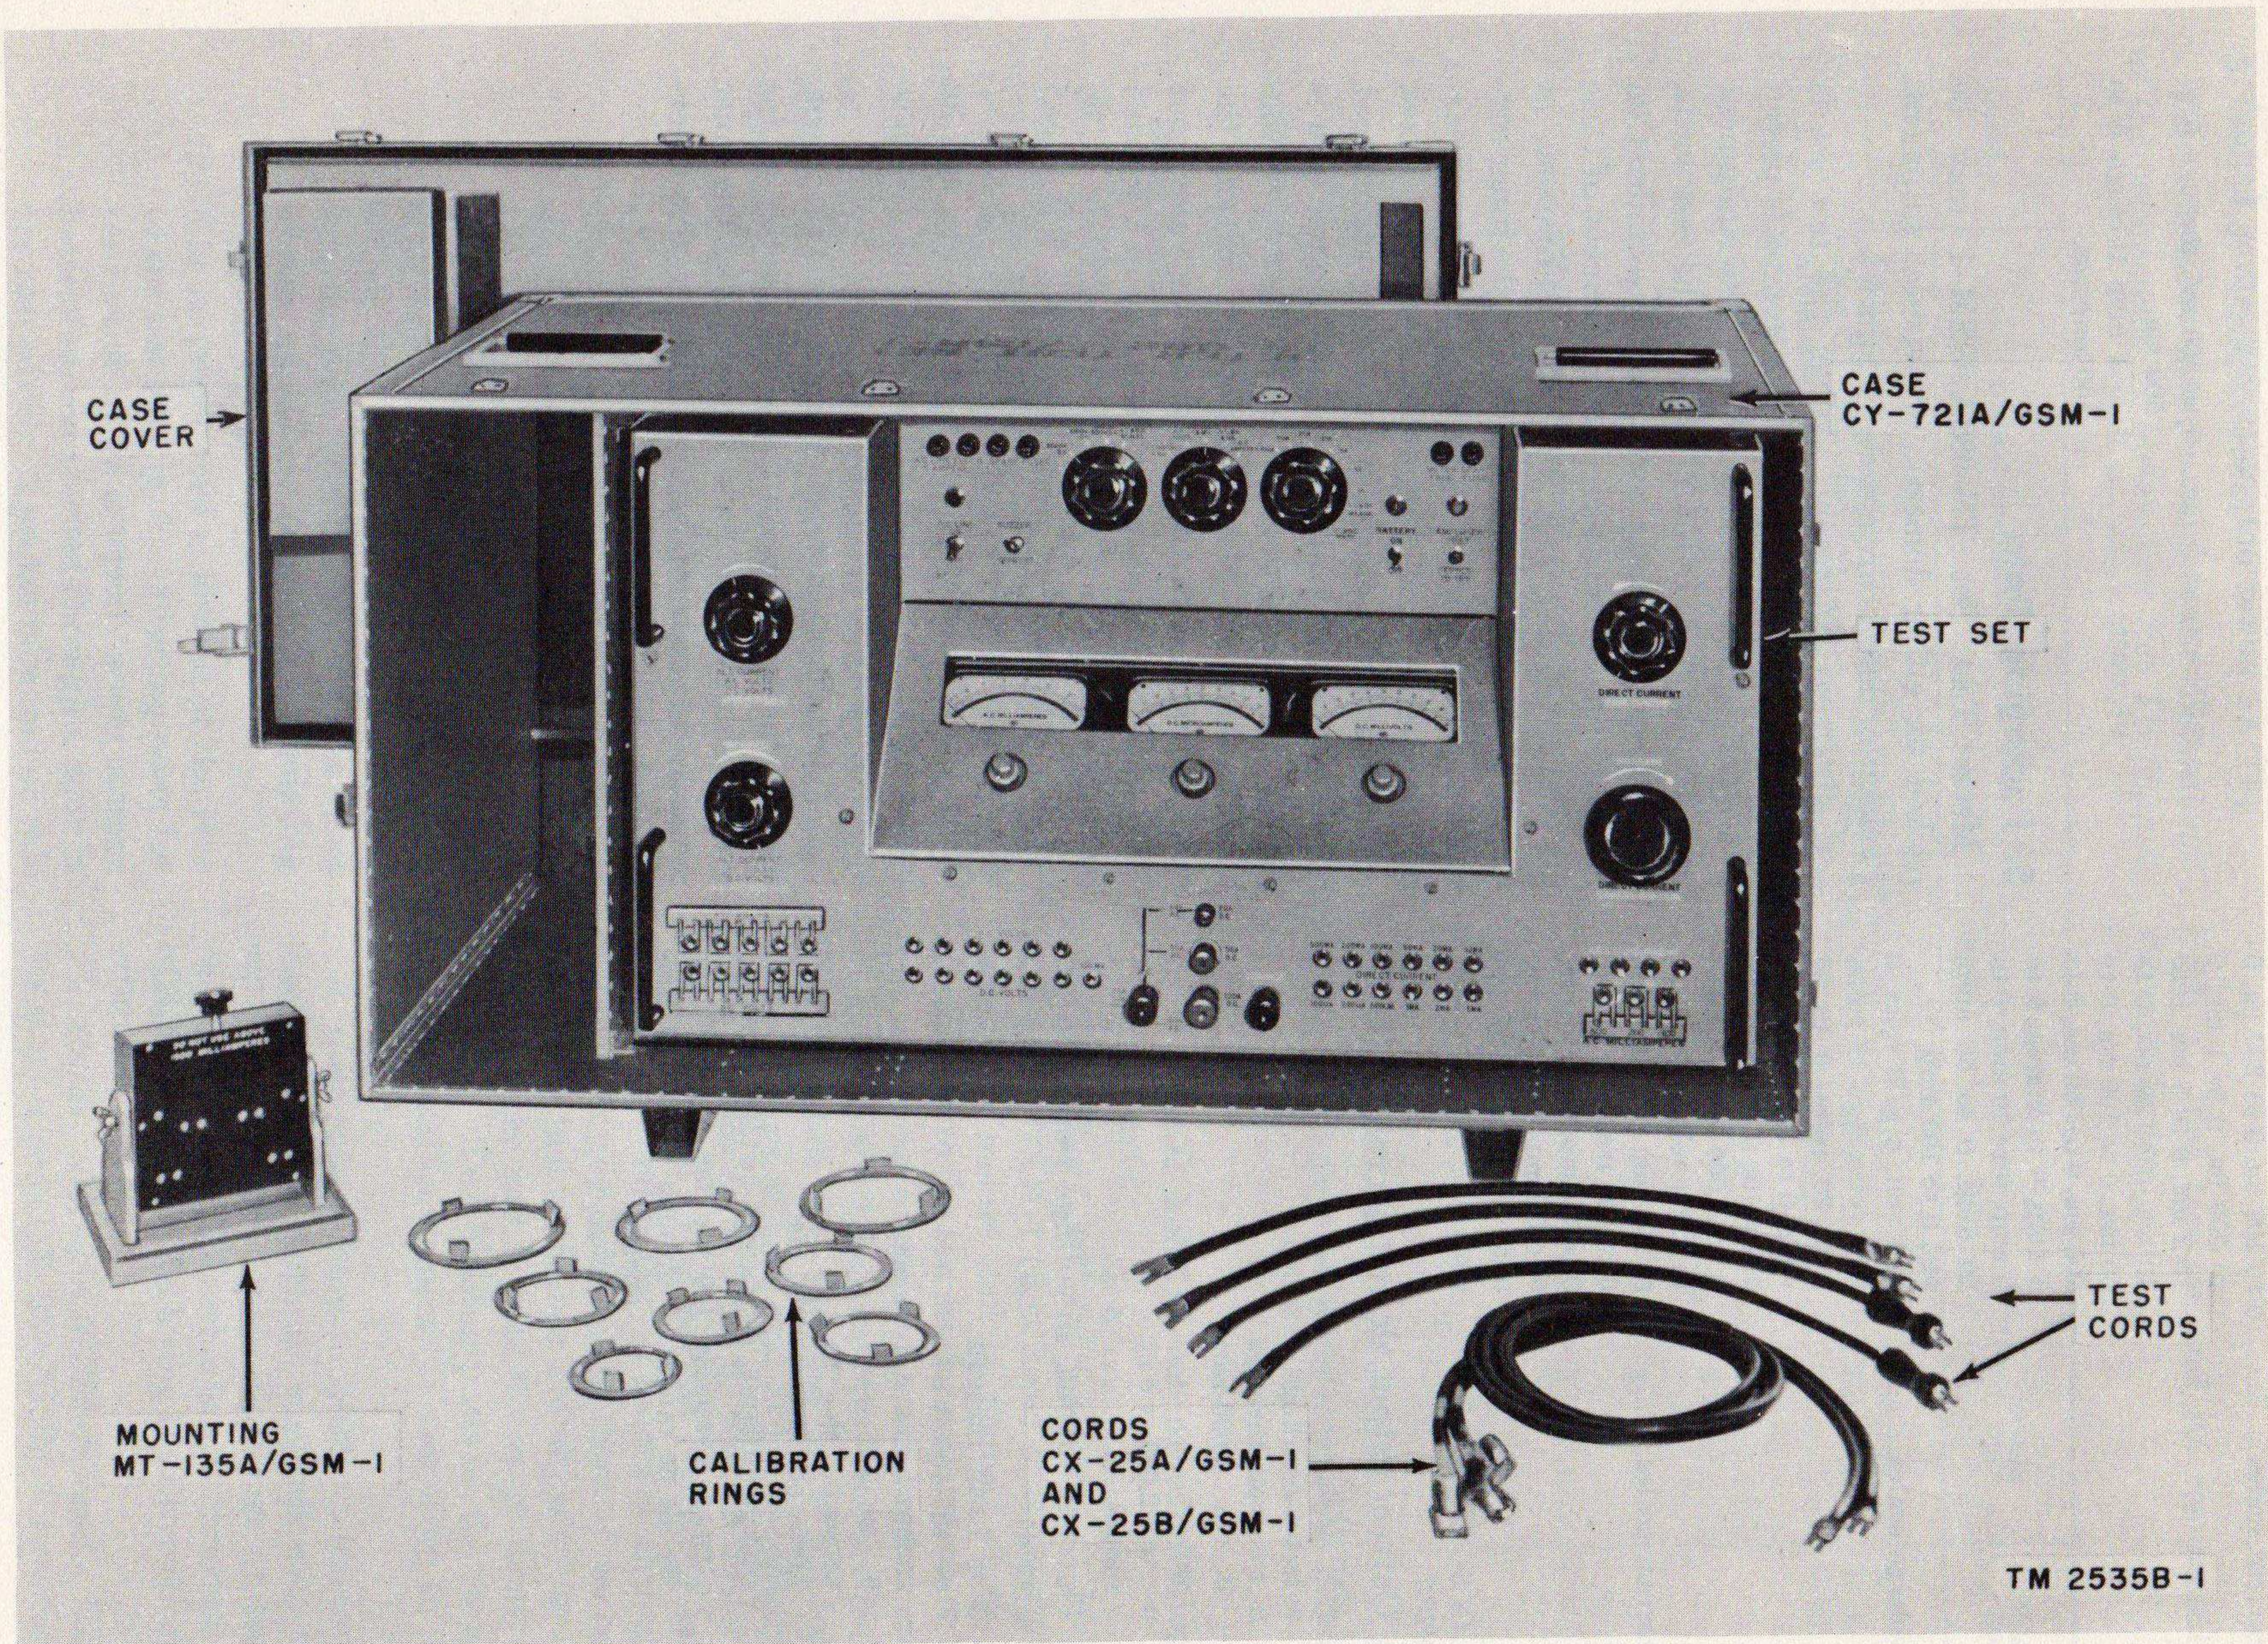
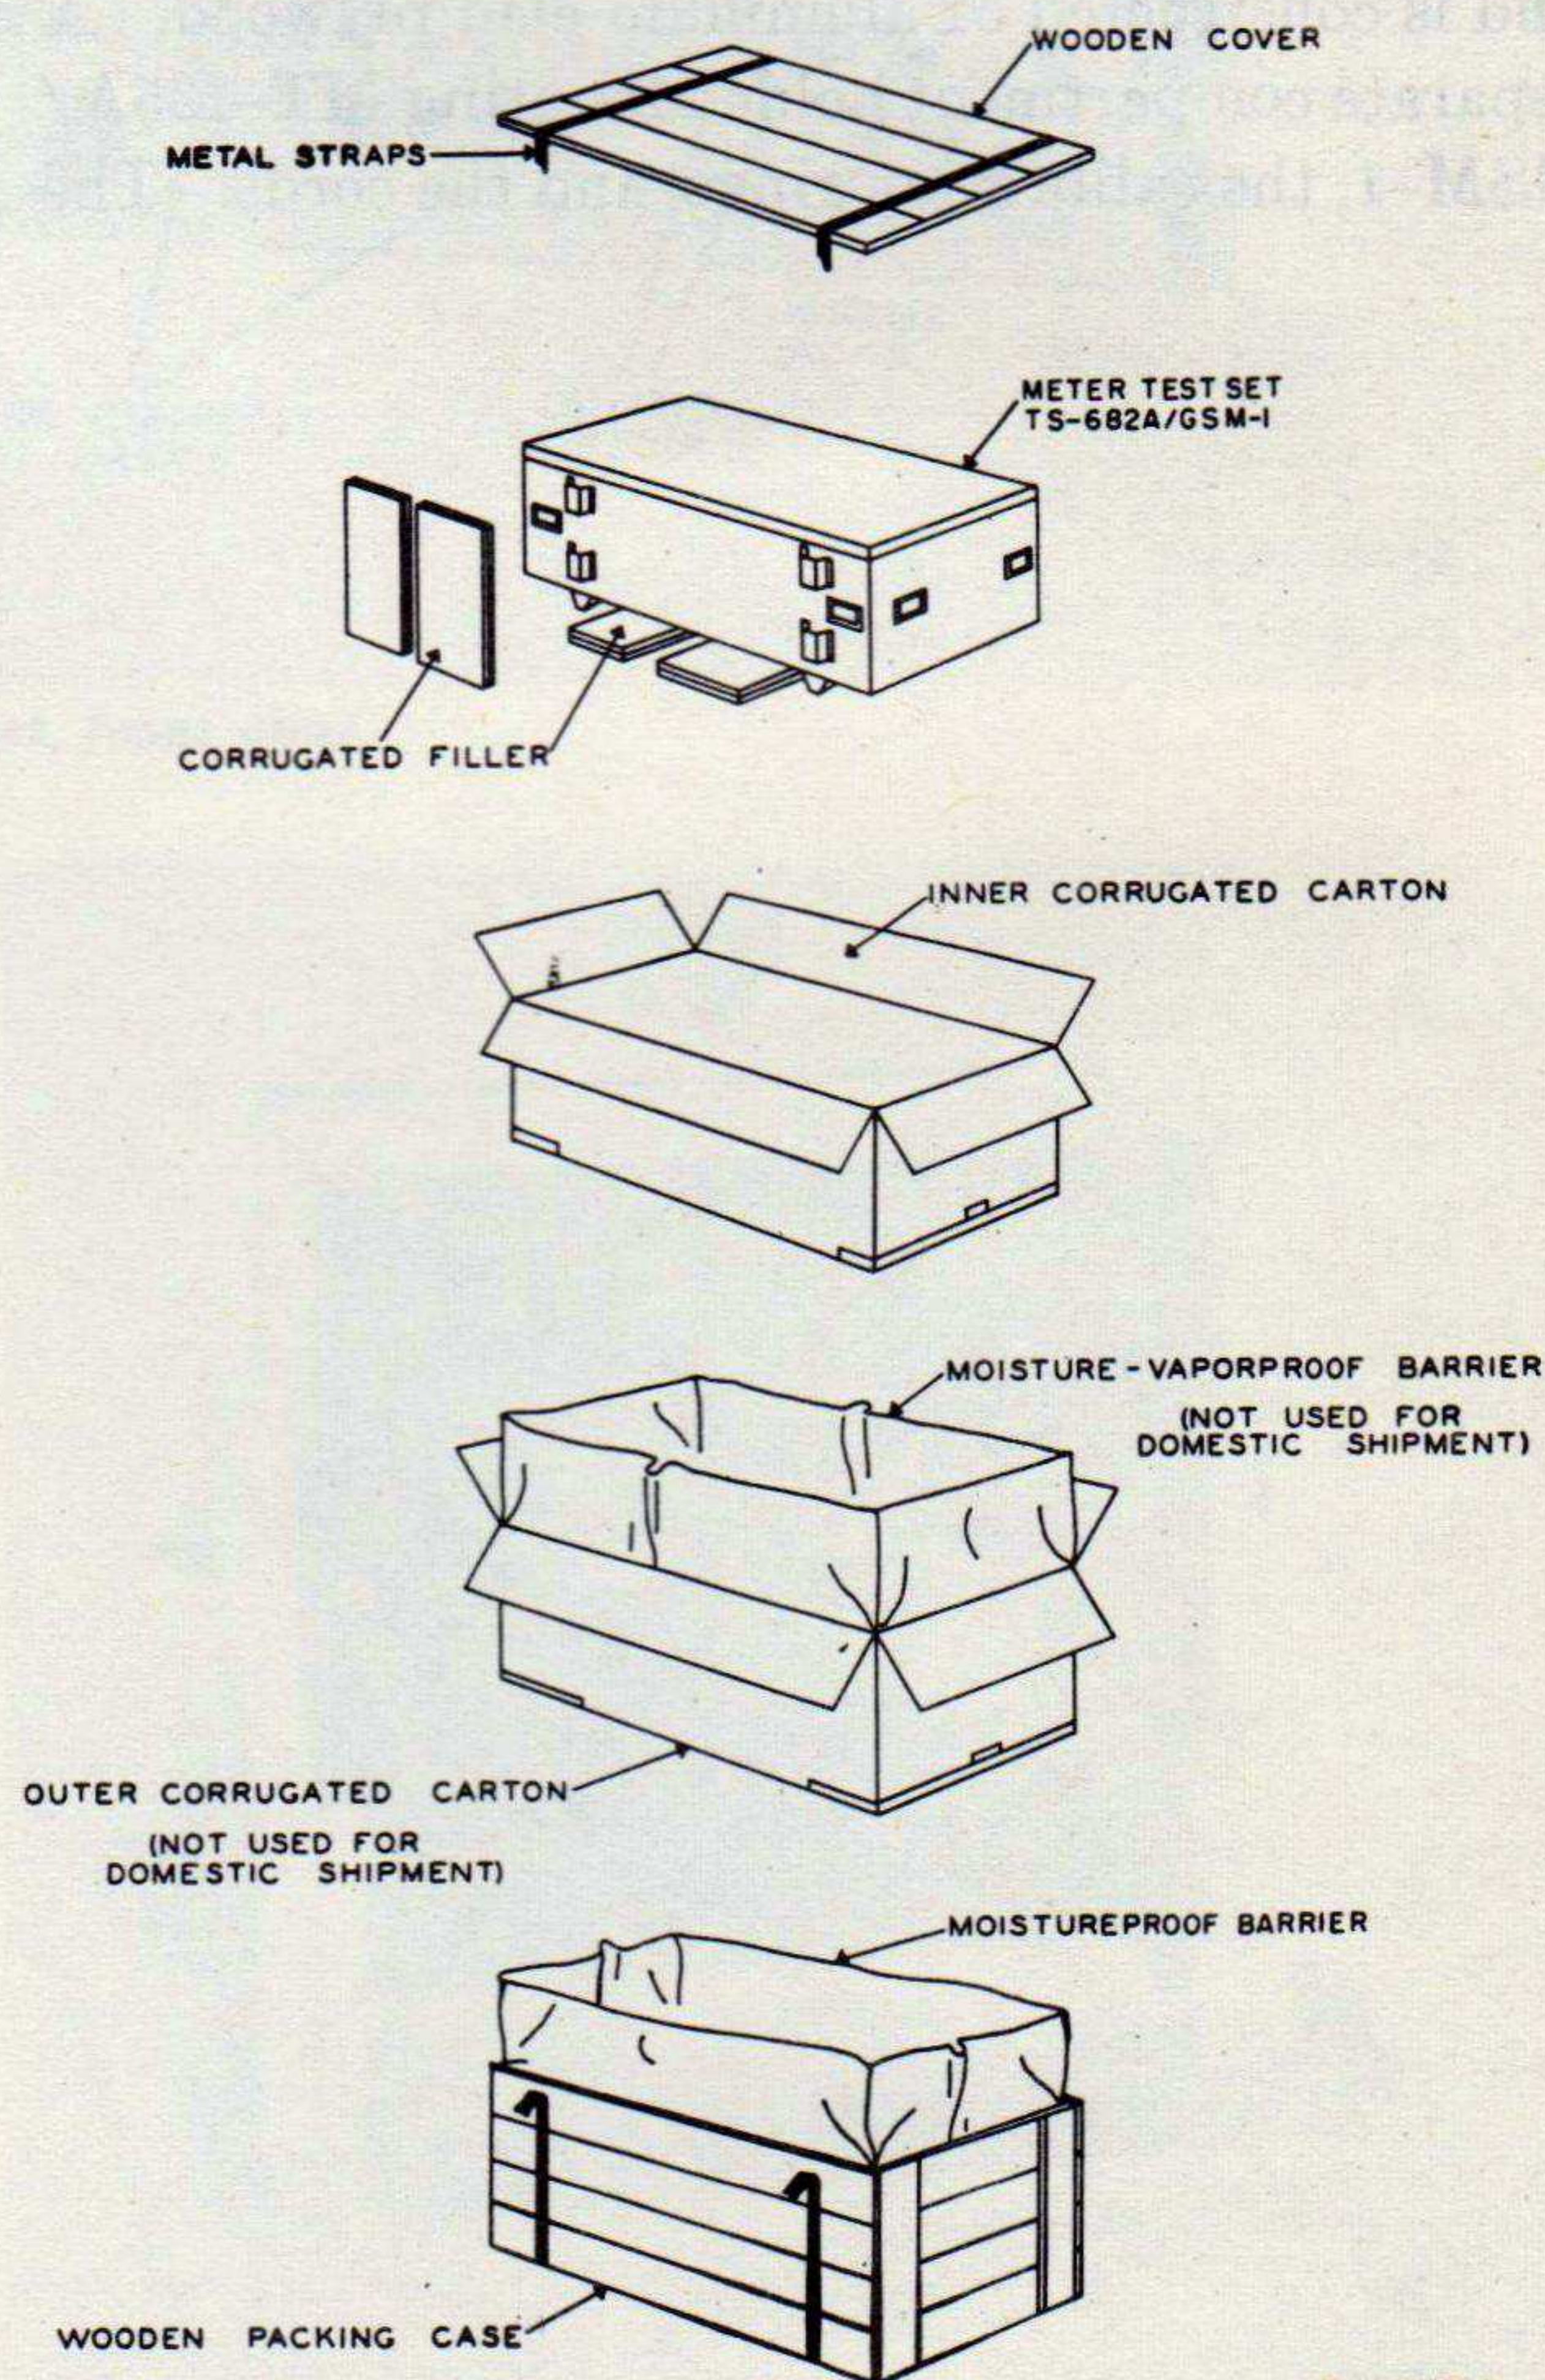

Figure 1. Meter Test Set TS-682A/GSM-1.
Figure 5. Packaging details for Meter Test Set TS-682A/GSM-1.
a. Meter Test Set 682A/GSM-1 (fig. 1) provides repair personnel in maintenance companies and repair depots with a means of checking the operation and accuracy of voltmeters and ammeters. It also functions as an accurately metered power supply, furnishing all direct-current (dc) and alternating-current (ac) power to meters under test.
b. Meter Test Set TS-682A/GSM-1 (fig. 1) is used as a standard meter. A meter under test is read and this reading is checked against the reading of the test set standard meter. The readings are compared to determine the accuracy of the meter under test. In this manual, the major component of the TS-682A/GSM-1 is referred to as the *test set*.
Meter Test Set TS-682A/GSM-1 may be packed for either domestic or overseas shipment. Packaging details are shown in figure 5.
a. Overseas Shipment. When the test set is packed for overseas shipment, the test set is placed in the carrying case with the face of the equipment up. Mounting MT-135A/GSM-1, the test cords, the battery connecting cords, and the calibration rings are placed in the small compartment of Case CY-721A/GSM-1 (fig. 1). The equipment, in Case CY-721A/GSM-1, is placed in the inner corrugated carton (fig. 5). The inner corrugated carton is sealed with gummed tape. The boxed equipment then is placed in a moisture-vaporproof barrier, which is heat-sealed, and this package is placed in the waterproof outer corrugated carton. The manuals are placed under the lid and the outer corrugated carton is sealed with waterproof tape. The packaged test set is placed in a wooden packing case with a waterproof case liner. The wooden container is reinforced with flat metal straps. The packed Meter Test Set TS-682A/GSM-1 is 56 inches long, 34 inches wide, and 32 inches high. It weights 520 pounds and displaces approximately 35 cubic feet.
GSM-1. The test set and its components are shown in figure 1.
a. General. Meter Test Set TS-682A/GSM-1 (fig. 1) is a multirange precision test set used to measure the performance characteristics of ac and dc voltmeters and ammeters. The TS-682A/GSM-1 consists of a test set, Mounting MT-135A/GSM-1 on which the meter under test is mounted, test cords, dc power supply Cords CX-25A/GSM-1 and CX-25B/GSM-1, eight calibration rings, and Case CY-721A/GSM-1.
d. Calibration Rings. Eight cadmium-plated steel calibration rings are supplied with the test set (fig. 1). The inside diameters of the rings range from 1.5 to 3.9 inches to accommodate meters of different sizes. Each ring has three spring-steel retainers.
CX-25B/GSM-1 (negative) (fig. 1) are used to connect a 12-volt storage battery to the test set. The cords are 6 feet long and are rubber insulated. Each cord has a battery clip at one end, marked for polarity, and a spade-type terminal at the other end.
f. Test Cords. Four 24-inch rubber-jacketed test cords (fig. 1) are used to connect the meter mounting to the test set. Two of the cords terminate in spade-type terminals at both ends; these are used to connect the mounting to the test set binding posts. Two of the cords terminate in spade-type terminals at one end and plugs at the other end. The cord with a plug having a .25-inch diameter shank is used to connect the mounting to the voltage jacks of the test set; the cord with a plug having a .2065-inch diameter shank is used to connect the mounting to the current jacks.
g. Case CY-721A/GSM-1. Case CY-721A/GSM-1 (fig. 1) is used to transport the test set and is constructed of aluminum-clad plywood. A separate compartment holds Mounting MT-135A/GSM-1, the calibration rings, and the cords. The